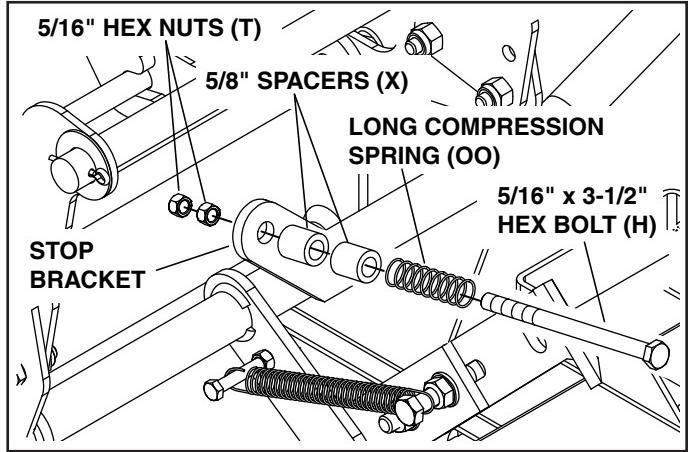

FIGURE 7A
STEP 8: INSTALL STOP BRACKET BOLT (SEE FIGURE 7A)